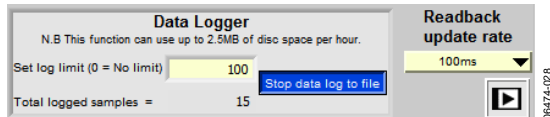

Figure 28. Data Logging
1. Enter the number of times to perform a sample in the **Set log limit (0 = No limit)** text box. The sampling rate is set using the **Readback update rate** drop-down menu, as discussed previously, there are four options to choose from 100 ms, 200 ms, 500 ms, or 1000 ms. In the example in Figure 28, the data logger logs 100 samples, with 100 ms between each sample.